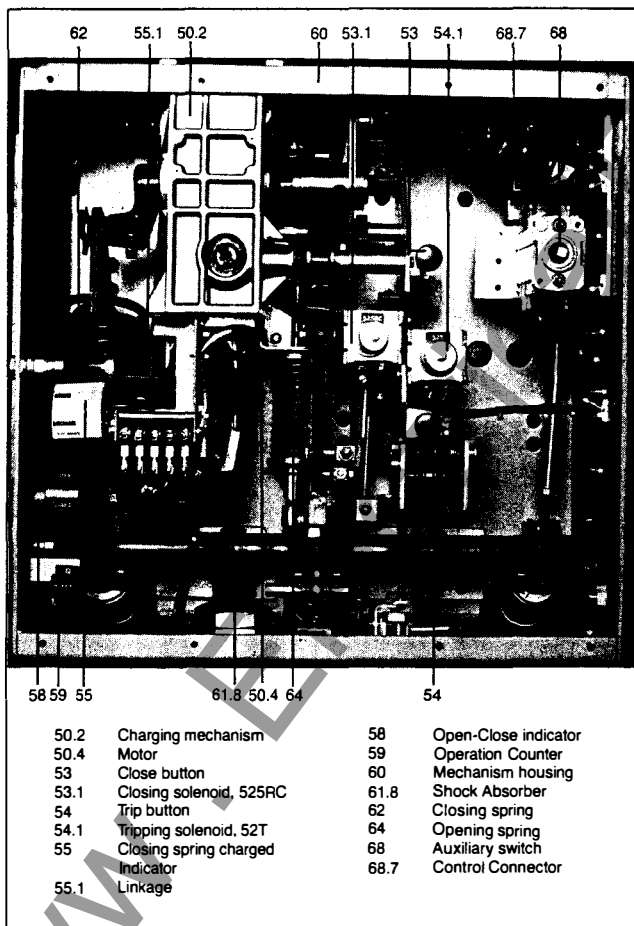

Figure 8
The close-open indicator (58) closing spring charge indicator 55, and the operation counter (59) are fitted on the front of the mechanism housing. (Fig. 8)
The control connector (68.7) for the control and signaling cables is a 64 contact plug or 24 point terminal block applied internally to the drawout unit. (Fig. 8)
Operating Mechanism (Figures 8 thru 12)
The essential parts of the operating mechanism are shown in Fig. 8. Its actuation is described under "Flow Chart of Operating Mechanism" on page
The details of the closing spring charging mechanism are shown in figures 8, 9, 10, & 12. The charging shaft, (62.1), is supported in the charging mechanism, (50.2), but is not coupled mechanically with the charging mechanism. Fitted to it are the crank, (62.2), at one end and the cam, (62.3), together with lever, (62.5), at the other.
Closing (See Fig. 8, 9, 10 and 12).